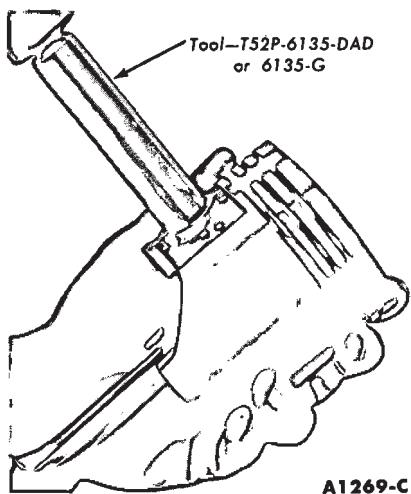

FIG. 39—Removing Piston Pin
2. Remove the piston rings. Remove the piston pin retainers. Drive the pin out of the piston and connecting rod (Fig. 39). Discard the retainers.